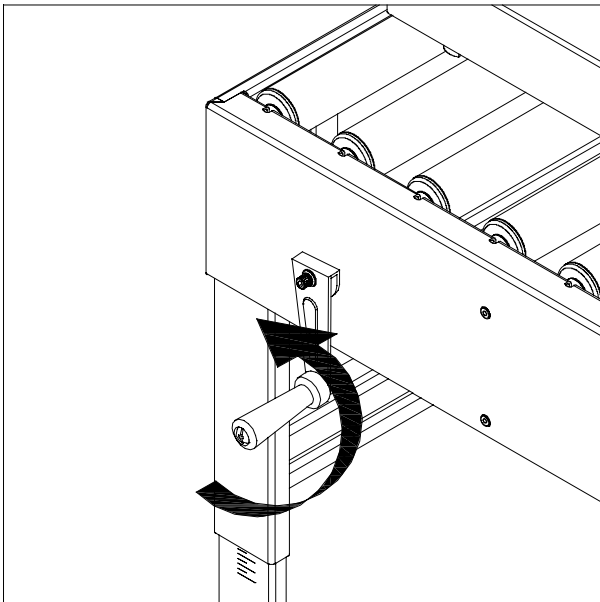

FIGURE 2-3
WIDTH ADJUSTMENT CRANK: Turn the handle (W) clockwise for narrow and smaller packages; turn the handle counter-clockwise for wider and larger packages. [Fig 2-3]